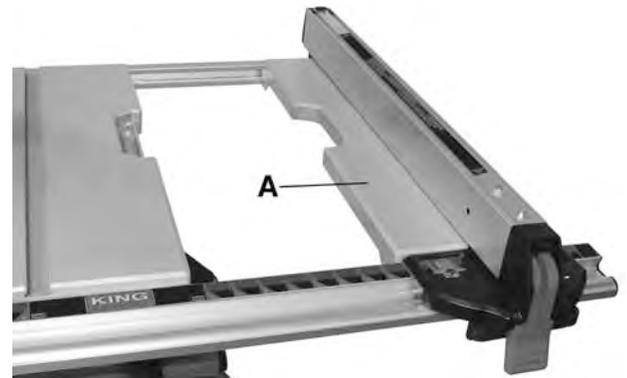
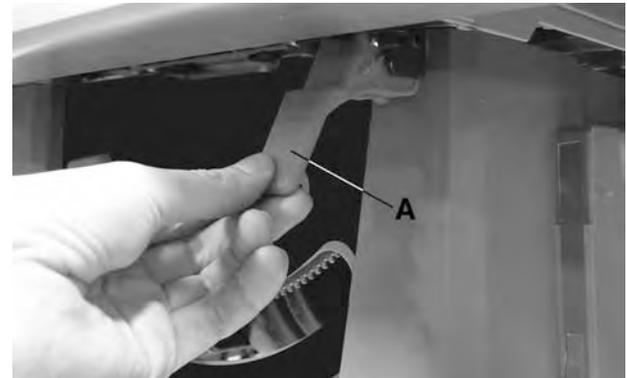

FIGURE 17
FIGURE 18
2. Unlock the extension table (A) Fig.17 by raising the extension lock lever (A) Fig.18, slide the extension to the desired width. Use the scale on the front rail when a specific width is desired.
3. Once the extension is in the desired position, lower the lock lever (A) to secure the extension in place. The rip fence can now be installed as shown in Fig.17.